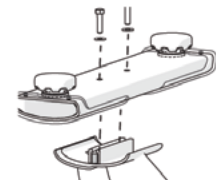

Figure 2
3. Attach the rear stabilizer to the frame using two bolts **1** and two flat washers **2** (Figure 2). Using a hex key **5**, tighten to 15.6ft-lb (21.2 N-m).